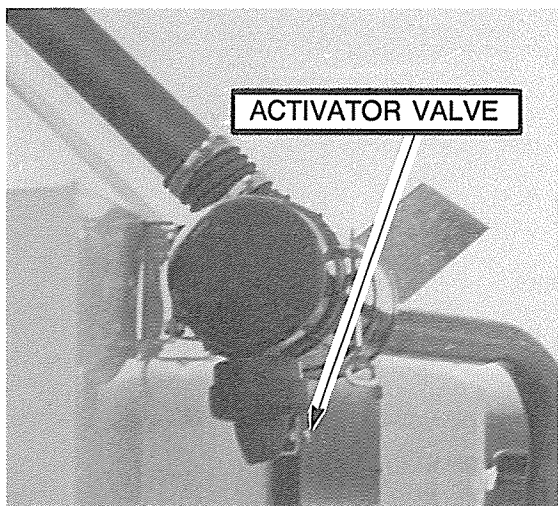

Figure 37
- (1) Oil will be pumped out of the exhaust pipe.
- (2) Overfilling causes air ingestion and foaming of the oil which results in poor lubrication and subsequent damage to the engine.
- (f) Check that the activator valve on aircleaner is clear of debris. (See Fig. 37).